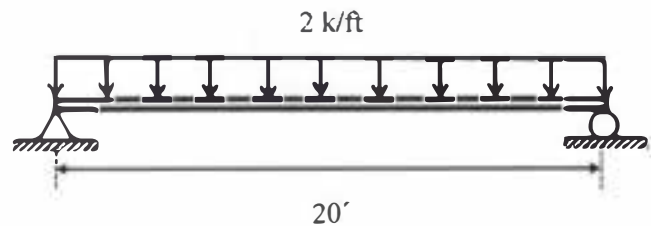

Fig 2
- Use WSD Method to design the simply supported RC beam (Fig 2) with a span of 20 ft and loaded with 2 k/ft excluding the self-weight. Given, $f_y = 50$ ksi and $f_c' = 3$ ksi.